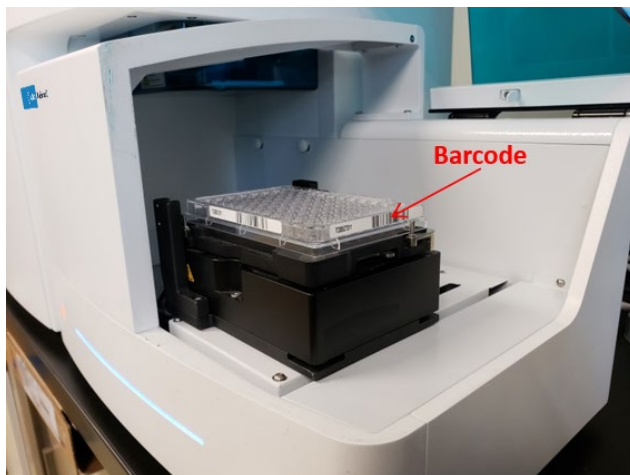

Figure 39. Load the Plate with Barcode onto NovoSampler Q
- 5 Open the NovoSampler Q cover. Place the sample plate onto the orbital shaker with the correct orientation. There should be one barcode label facing to the right as shown in Figure 39.